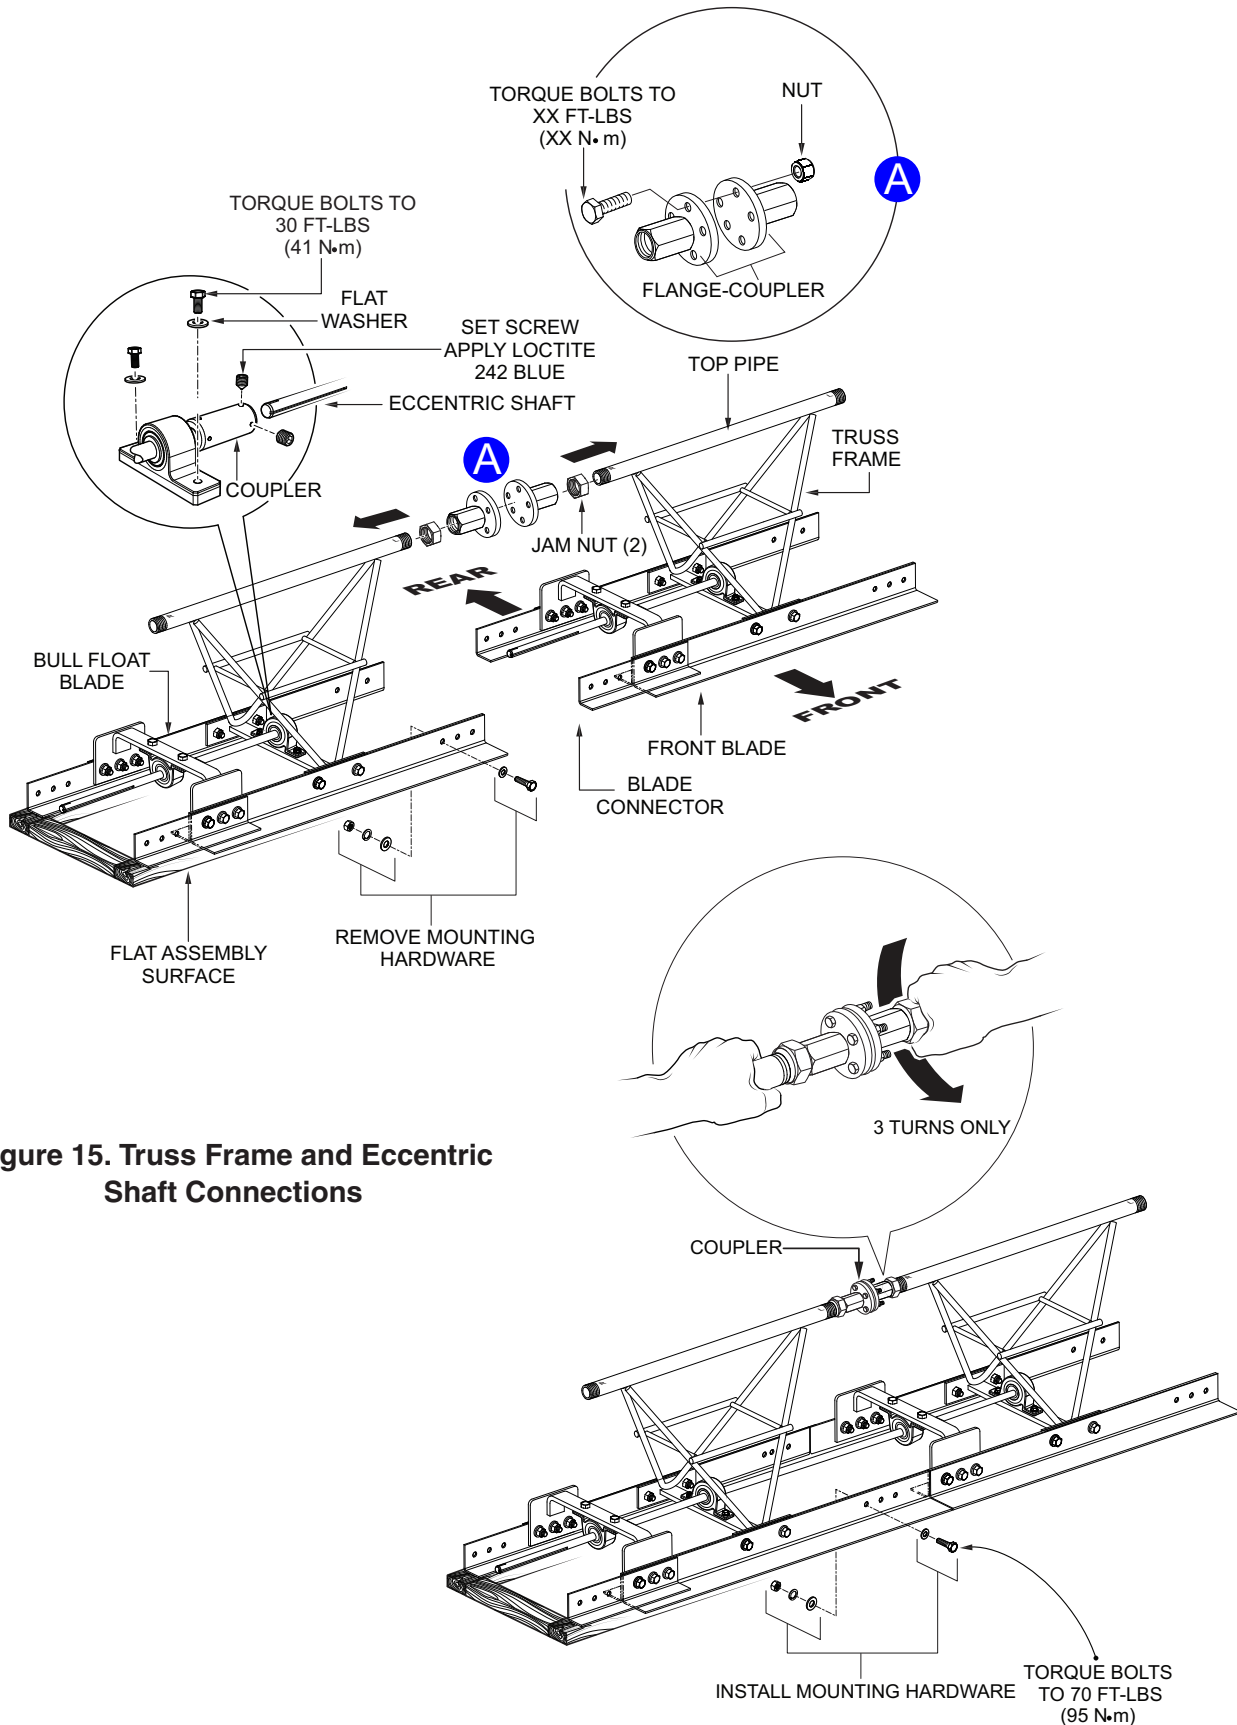

Figure 15. Truss Frame and Eccentric Shaft Connections
2. Screw jam nuts onto the top pipe as shown in Figure 15. Hand thread the top pipe **flange-coupler** about 3 turns onto the top pipe of the mating truss section.
3. Verify that the drive shaft coupler has already been installed on the free end of the drive shaft as shown in Figure 15.